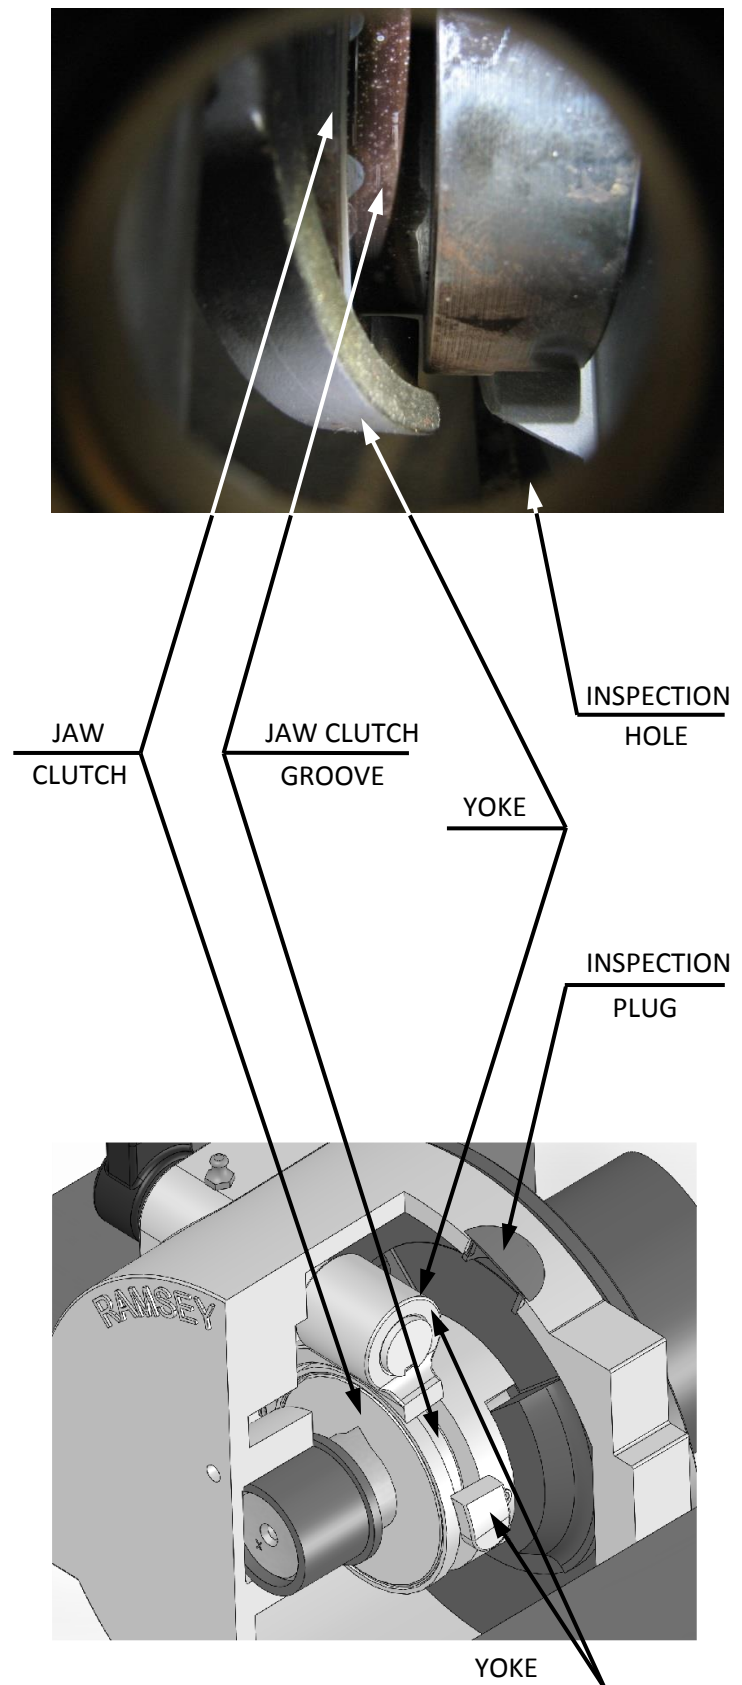

FIGURE 1
2. Lubricate shifter yoke forks and groove of jaw clutch per Figure 1. Run winch and lubricate jaw clutch groove for one drum revolution. Any good grade of **moly-disulfide containing grease** is acceptable and can be obtained from Ramsey by ordering kit #251333.
1. Remove clutch housing and inspect yoke forks. If they are worn or damaged, order kit #251334 for a replacement yoke. Remove clutch housing and grease jaw clutch groove and shifter yoke forks as shown in Figure 1. Any good grade **moly-disulfide containing grease** is acceptable and can be obtained by ordering Ramsey kit #251333.